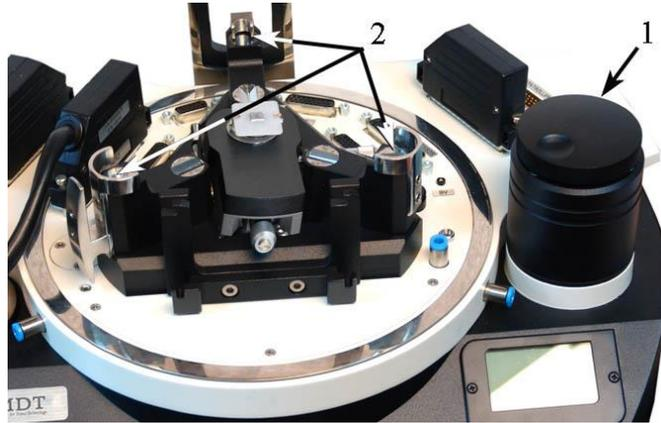

Fig. 8-22.
1. Rotate the manual approach knob clockwise until the scanner comes to its lowest position (pos. 1 on Fig. 8-22). This will secure the probe and the sample during installation of the measuring head.